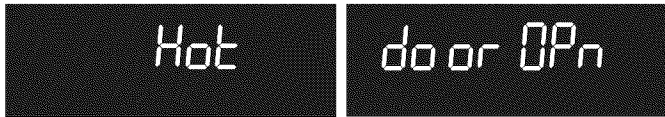

Figure 27: Hot oven door locked (L) door open message (R).
1. CLn message will turn off and Hot will appear in display window (Figure 27).
2. If Self Clean has heated the oven to a high temperature, allow enough time for the oven to cool and the door Opn message to appear (Figure 27). When this message turns off the oven may be opened.